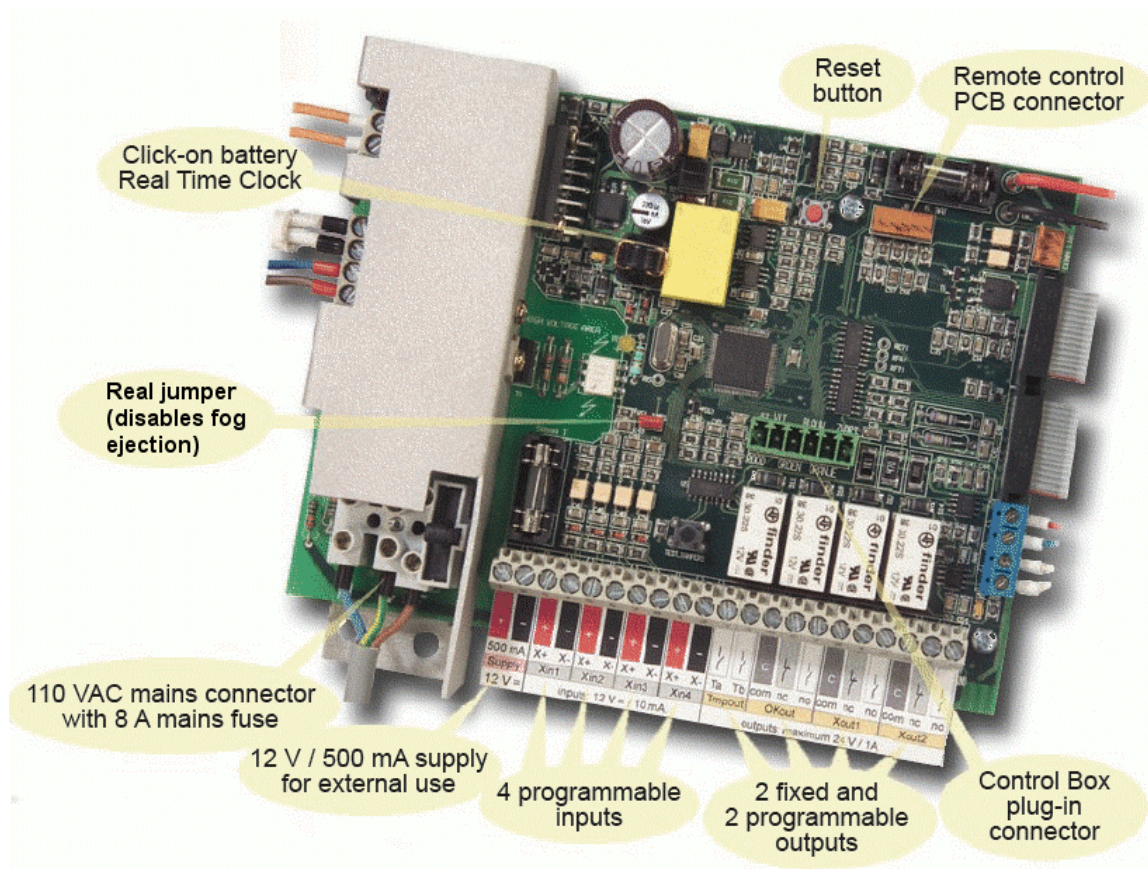

Figure 1 - Bandit 240 PB PCB
Refer to Figure 1 when making electrical connections.
2. Connect the red wire to the +12V power supply, and the white wire to Grdout (See Figure 1).
Fast blinking red	Technical adjustment required. Possible causes include control box is switched on, wrong type of HY-3 pack installed, real jumper not plugged in (see Figure 1).